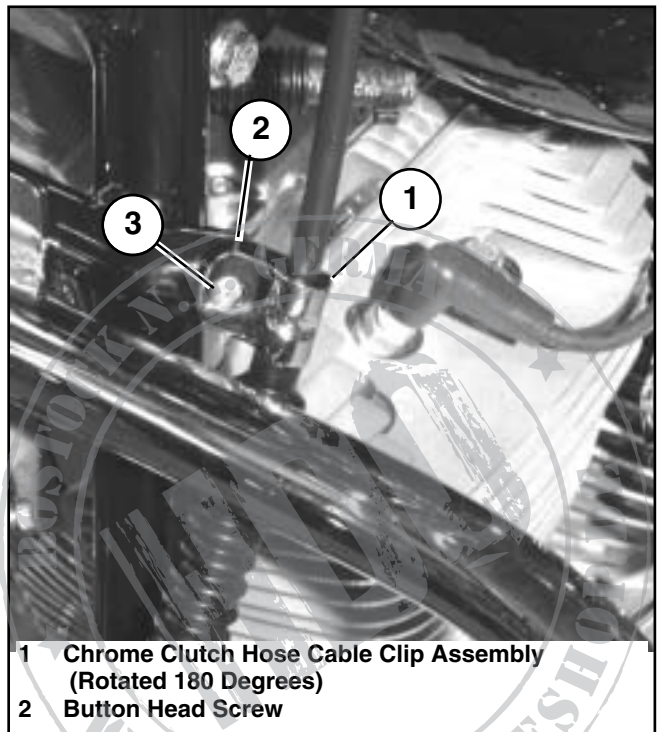

Figure 2. Installation of Clutch Cable Clip Assembly with Engine Guard
The clutch cable clamp base plate, (item # 2) should only be installed when the vehicle is equipped with an engine guard as in Figure 2.
1. See Figure 2. Apply one drop of Loctite® 242 (blue) to the new capscrew (3) threads. Install the chrome clutch hose clip (1), clutch cable clamp base plate (2) and capscrew (3), securing the clutch cable, to the frame downtube horizontal mounting bracket rotating the clamp 180 degrees to allow for clearance form the engine guard.